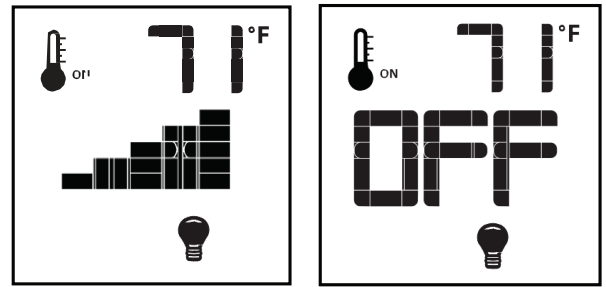

Fig. 66 Dimmer light control
The auxiliary function controls the AUX power outlet by the dimmable light control. To activate this function use the Mode Key (fig. 52) to index to the light bulb icon (fig. 66). The intensity of the output can be adjusted through six (6) levels. Use the Up/Down Arrow Keys (Fig.52) adjust the output level (fig. 66). A single “beep” will confirm reception of the command.